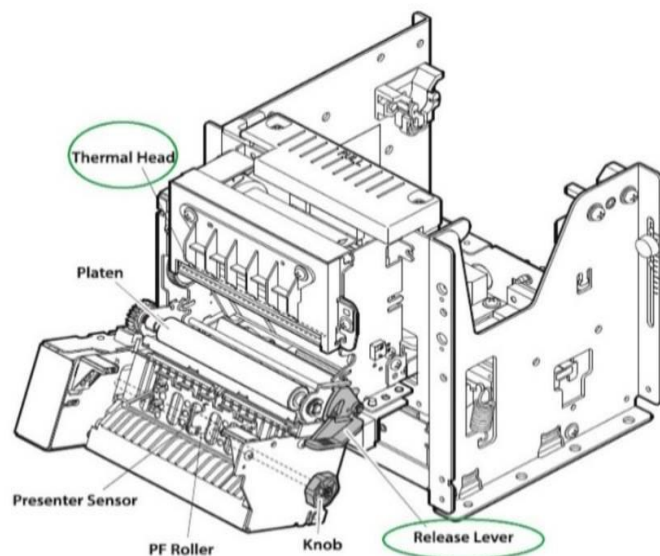

Figure 75. Printer thermal head cleaning
- Open the front of the printer with the **green** release lever seen in Figure 75